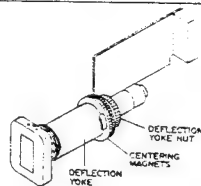

Fig. 4-71
(1) Deflection Yoke Position Adjustment (Fig. 4-71)
(2) EVF Centring Adjustment (Fig. 4-71)